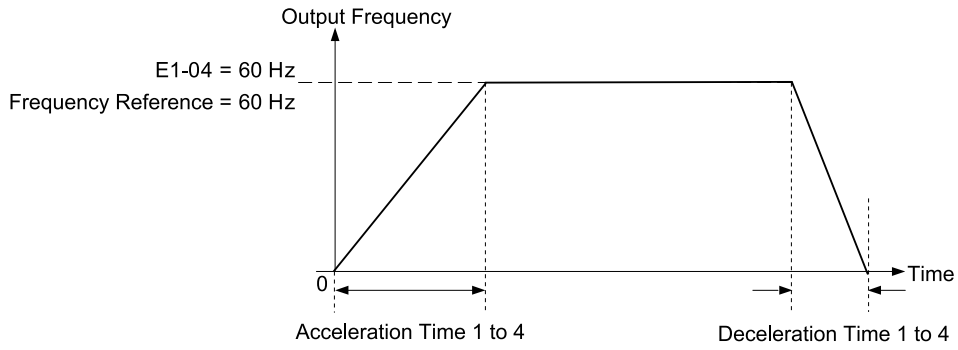
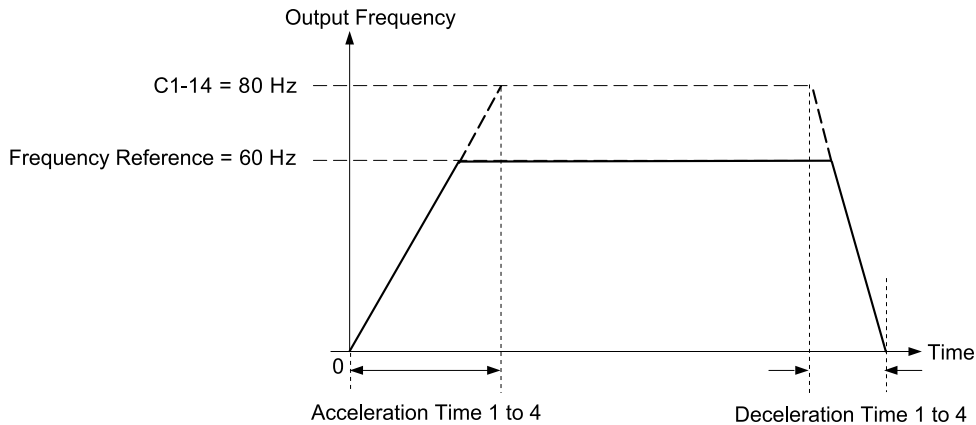

Figure 12.40 Example 1: Acceleration/Deceleration Rate (When C1-14 = 0 Hz, E1-04 = 60 Hz, and the Frequency Reference is 60 Hz)
Figure 12.42 Example 3: Acceleration/Deceleration Rate (When C1-14 = 80 Hz, E1-04 = 60 Hz, and the Frequency Reference is 60 Hz)
- Figure 12.40 to Figure 12.42 show the accel/decel times when $C2-01$ to $C2-04$ [S-Curve Times @ Start/End of Accel/Decel] = 0.00 s.